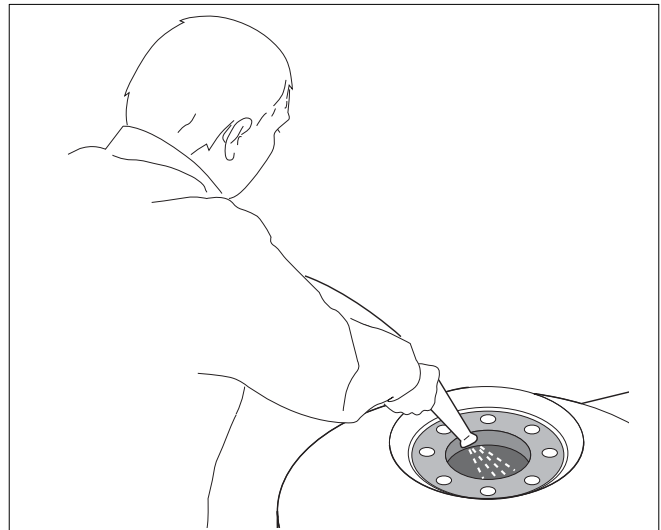

Fig. 17 Hosing down the inside of the DHW tank
- Hose down the interior of the DHW tank with a "hard" cold water jet (approx. 58 – 72 psi pressure) (Fig. 17).